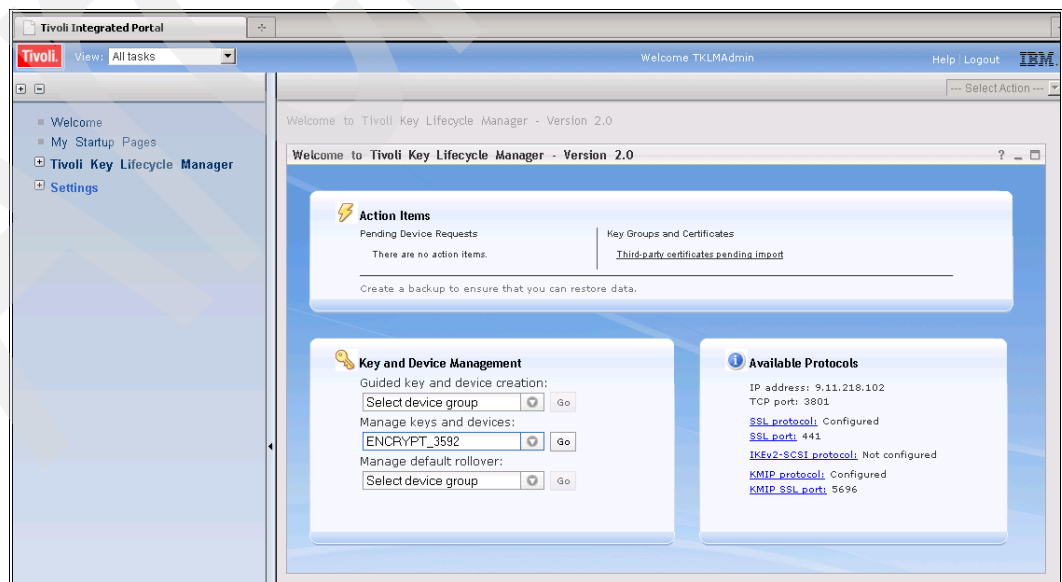

Figure 9-18 Welcome panel with manage keys and devices drop down selected
- On the welcome panel, select the device group from the **Manage keys and devices** drop-down list and click **Go** (Figure 9-18). This panel might have pending tape drive add requests.